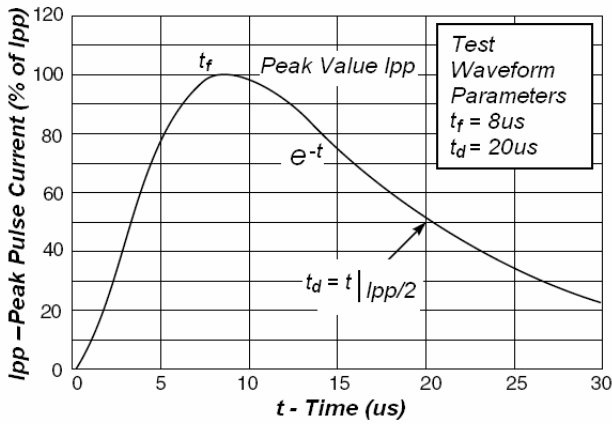

Figure 1. Pulse Waveform according to IEC 61000-4-5
2. Surge current waveform per Figure 1 according to IEC 61000-4-5.